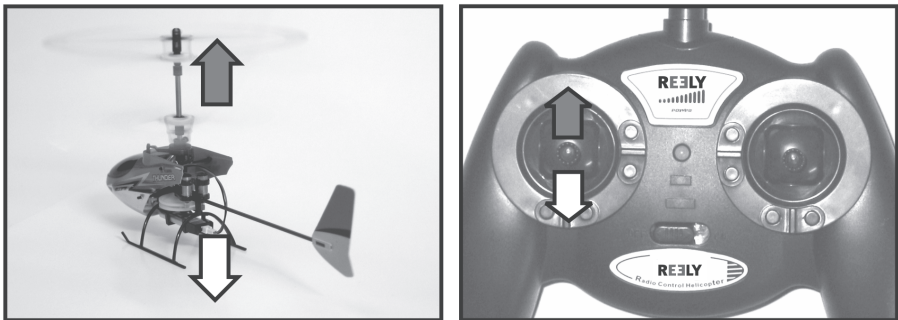

Figure 11
With the pitch function you can control the flying height of the helicopter (see figure 11). For control, the left control lever (also see figure 1, item 8) is used.